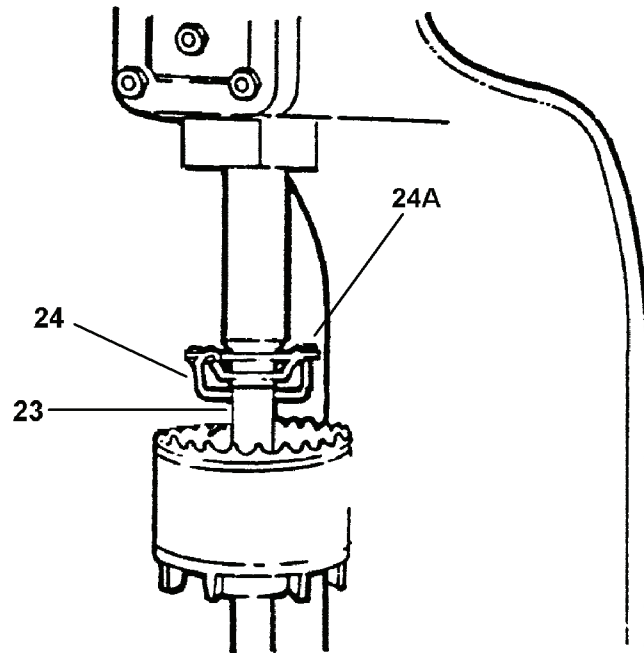

Figure 3-13. Pressing Actuator Onto Shaft in Arbor Press.
- a. Place rotor and shaft assembly (23, Figure 3-13) upside down into an arbor press. Support shaft firmly so as not to damage bearing journals or shaft threads. Place actuator (24) on shaft. Gently apply pressure to actuator (24) until it opens. Continue to press actuator onto shaft. When properly installed, the distance between the end of shaft (23) and the face of phenolic ring (24A) should be 2-61/64 inches. This measurement must be made when actuator is in the collapsed position. A tolerance of  $\pm 1/64$  inch is allowed.